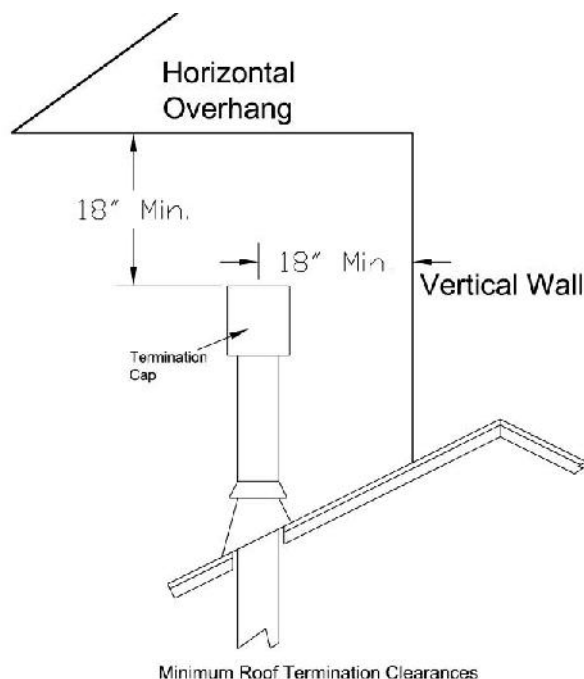

Figure 15 - Termination Cap clearances
- ☛ All termination caps must be no less than 18" (457mm) horizontally from any roof or vertical surface. See Figure 15.
- ☛ The termination must fall within the area shown in Figures 15 & 16.
- ☛ All horizontal terminations must also comply with the clearance specifications to adjacent structures outlined in Figures 15 & 16.